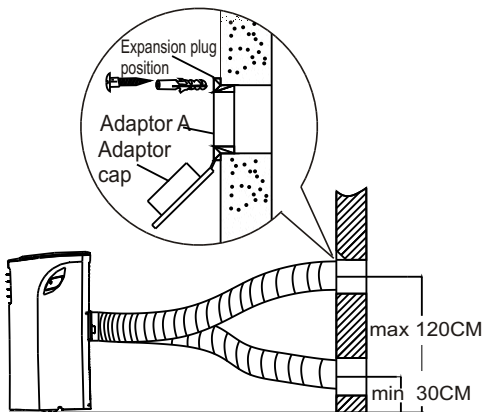

Fig. 19
1. Prepare a hole in the wall. Install the wall Exhaust adaptor A onto the wall (outside) by using 4 expansion plugs and wooden screws, be sure to fix thoroughly. (See Fig. 19)